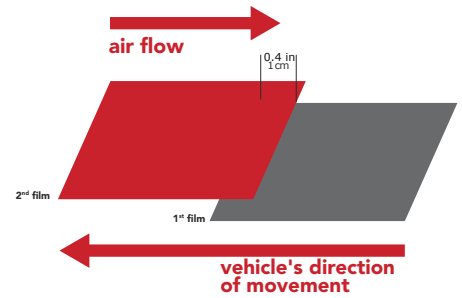

Figure 20
- Vertical overlapping of the SKINTAC HX45000 film on a mobile surface: Assuming that you always apply the film starting from the rear of the vehicle and working forward, then the overlapping will be done in the same way. (FIG. 20)